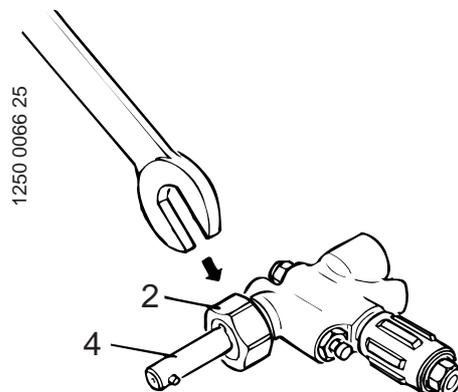

Fig. 11
8. Remove the nut (2) and piston-rod end (4). See fig. 11.